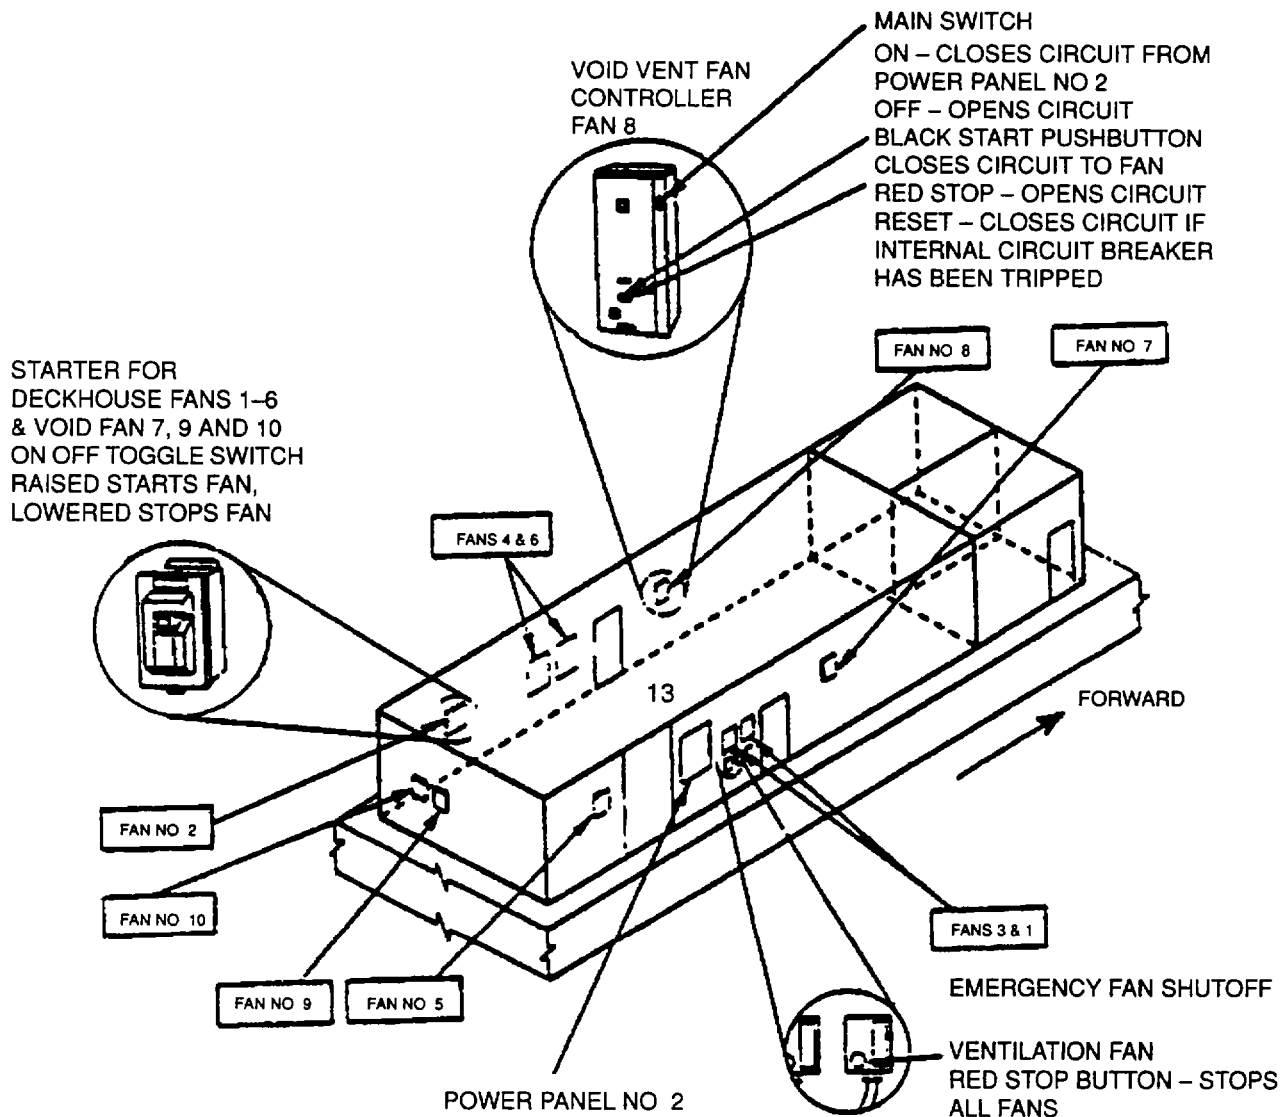

Figure 2-4. Ventilation System Operating Controls
- b. Six fans are controlled by electric controllers with ON/OFF toggle switches Raise toggle switches to start fans. Lower toggle switches to stop fans. Location of controllers is provided in paragraph 2-10.1 and in Figure 2-4.
2-10.1 Increasing ventilation. Push controller ON switches to start ROWPU space ventilating fans Operate fans (Figure 2-4) as desired to provide ventilation.